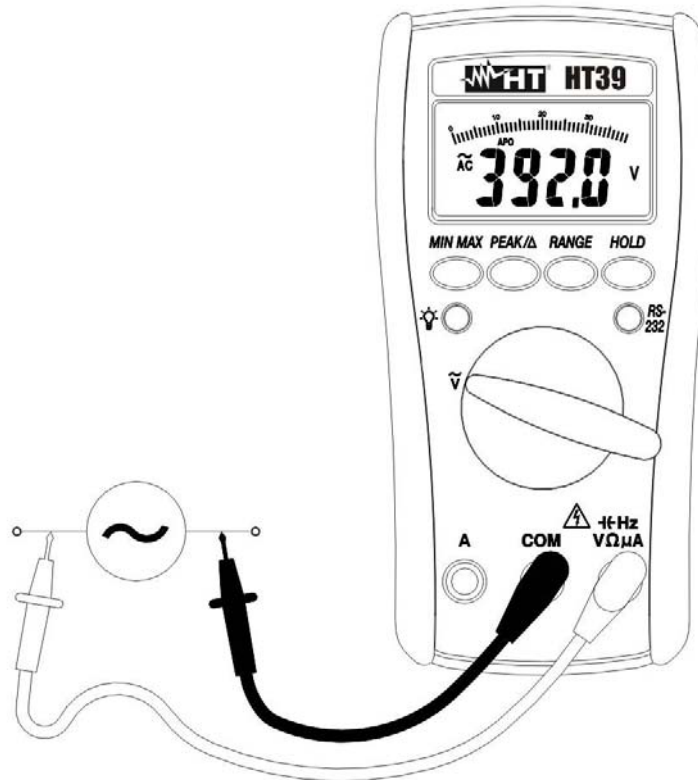

Fig. 4: AC Voltage measurement
2. Insert the test leads into the jacks, the red plug into **HzVΩμA** jack and the black plug into **COM** jack (Fig. 4).